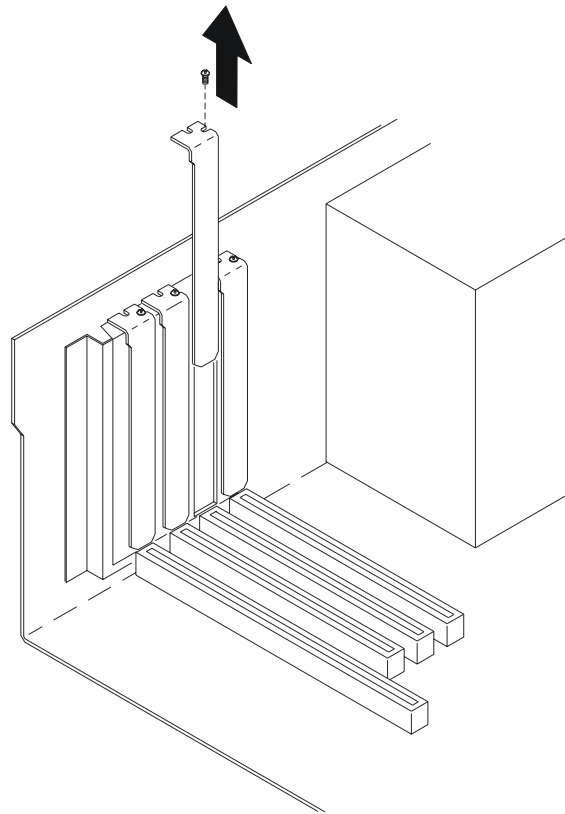

Figure 4-2 Removing the PC Expansion Slot Cover.
3. Remove the corresponding expansion slot cover (Figure 4-2) from the computer chassis.